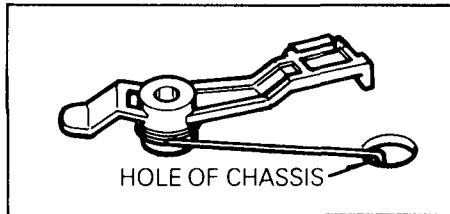

Fig. B-22-2 CAP Brake Assembly
- 2) Hook the end of Capstan Brake Spring to the projection of Capstan Brake and then remove the Capstan Brake Assembly by lifting it up (Fig. B-22-2)